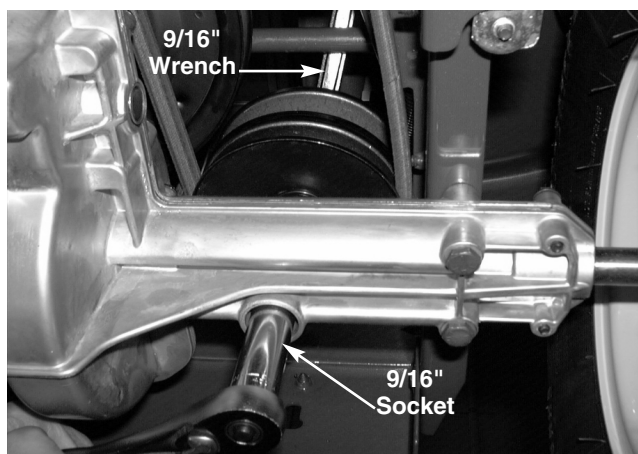

FIGURE 5.
- 1). Remove the hex bolt and lock nut securing the variable-speed pulley to the transmission using a 9/16 socket and a 9/16 wrench. See figure 5.